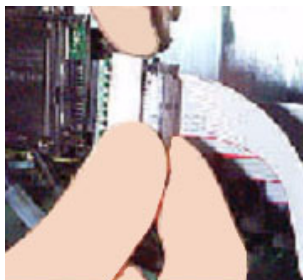

Figure 56. **Disconnecting Ribbon Cable**
9. Disconnect and remove the flat cable from the defective print head - see Figure 56.